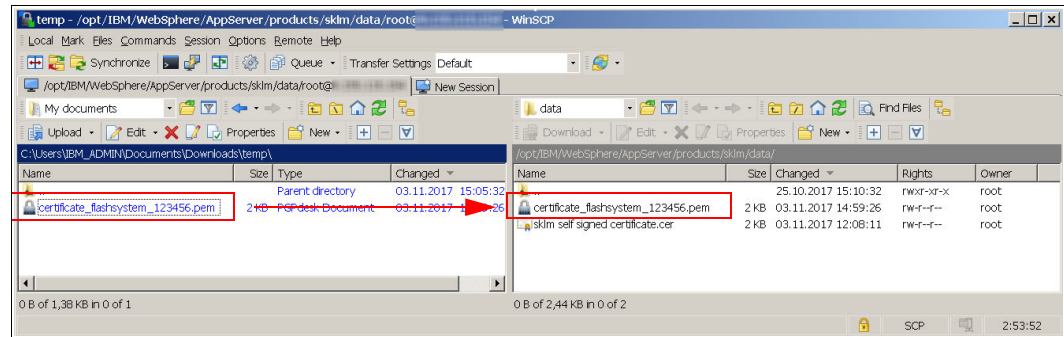

Figure 7-51 Transferring the FlashSystem 900 certificate to the SKLM key server
16. Transfer the FlashSystem 900 certificate that you stored on your local drive to the SKLM by using scp (see Figure 7-51).